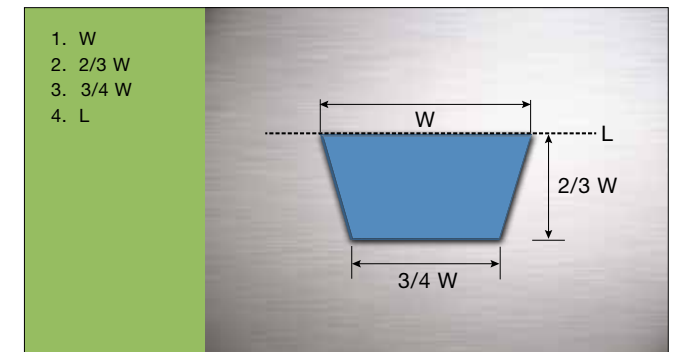

Figure 1: Relative Dimensions of a Trapezoidal Runner for Use in a Three-plate Mold
**FIGURE 1** shows typical relative dimensions of a trapezoidal crosssection runner. The flow through a trapezoidal runner is equivalent to that of the largest circular runner whose cross-section can be inscribed with the trapezoid.